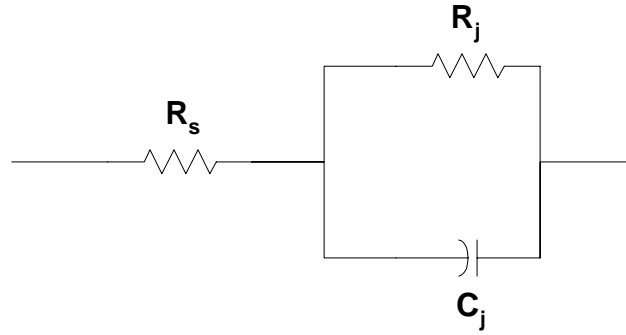

Figure 1. Simplified diode circuit model without package parasitics.
The diode circuit model that you should consider during the experiment is shown in *Figure 1*. You will be asked at some point to determine the effective junction resistance ( $R_j$ ) and capacitance ( $C_j$ ) based on simulated  $S_{11}$  (or input impedance) data. **The input impedance will be that of the entire diode, but if the series resistance  $R_s$  is known, the values for  $R_j$  and  $C_j$  can be extracted.**
- i) Using the results at the 5 dBm drive level, determine (or extract) values for the diode junction resistance and capacitance ( $R_j$  and  $C_j$ , respectively, in Figure 1). You can assume the series resistance ( $R_s$ ) is 5 Ohms.
- (1) Simulated value for  $R_j$  = \_\_\_\_\_
- (2) Simulated value for  $C_j$  = \_\_\_\_\_